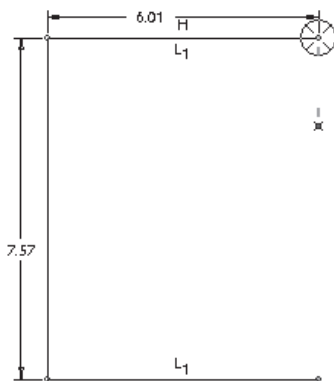

Figure 2-5 Cursor moved out of **Target** symbol perpendicular to the endpoint
2. Specify three points in the drawing area to draw an arc. If you want to draw an arc from the endpoint of an existing entity, select the endpoint of that entity. As soon as you select the endpoint, the **Target** symbol appears at the endpoint of the entity. Move the cursor along the tangent direction through a small distance, a yellow rubber-band arc appears with one end attached to the endpoint of the entity and the other end attached to the cursor. Note that when you move the cursor out of the **Target** symbol perpendicular to the endpoint, the arc is drawn by specifying three points. In this case, the rubber-band arc does not appear, as shown in Figure 2-5.